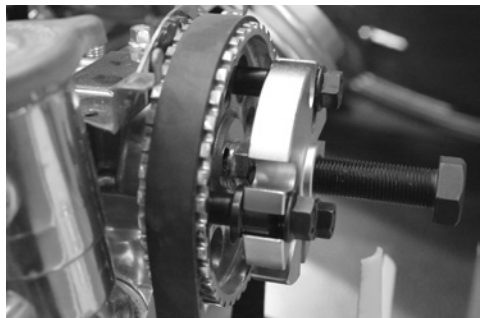

Fig. 2
- 4 Assemble the puller on the pulley as shown in Fig. 2
- 6 Ensure the ball end of the force screw is pushing on a flat surface, if the pulley shaft has a central hole then loosely refit the centre fixing bolt to ensure the force screw is pushing on a flat surface as shown in Fig. 2.